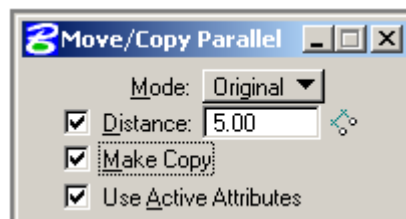

Figure 2. Move/Copy Parallel
Create the curb offsets as shown in FDM 11-26-30, Figure 2 using the move/copy parallel function.
3. Check the length of the arc. Per FDM 11-26-30, Figure 2 if the arc is not 65 to 80 feet long, recreate it to try to get an arc that is 65 to 80 feet long.